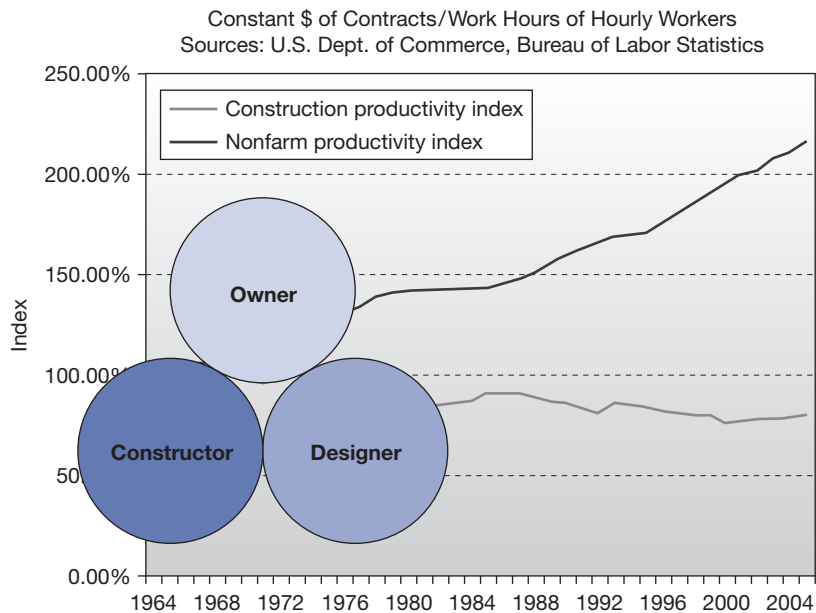

Figure 3.16 Owner/Constructor/Designer Productivity Index. *Sam Spata, Architect, AIA, LEED® AP BD+C*
**KF:** When I started my career, SOM Chicago was an absolute leader in applying technology to architecture and engineering. That experience—the first six or seven years of my career—has been incredibly valuable to me. Beyond that, no. If you talk about design analysis—if you think of Intelligent Building Modeling—the Midwest is not particularly a laggard. We have, for example, Joe Burns of Thornton Tomasetti. (See Figure 3.16.)